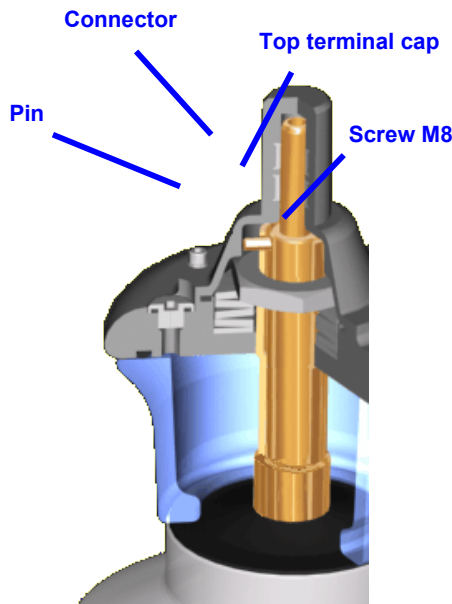

Fig. 13
To disassemble the HV top terminal cap, remove the 4 x M8 screws and lock washers, which secure it to the bushing head (fig. 13). Pull the HV terminal from the lug, keeping the terminal well centered on the axis of the bushing (fig. 13). The necessary force is small (about 10 kg) because the multi-contact blades, located inside the terminal, press softly on the smooth surface of the lug.
- Insert the HV terminal on the lug, keeping the terminal well centered on the axis of the bushing (fig. 13). The necessary force is small (about 10 kg) because the multi-contact blades, located inside the terminal, press softly on the smooth surface of the lug. The top terminal cap will hold the pin in place. Tighten the screws with a moment of 13 Nm. The gasket placed between the two pieces assures the transformer oil tightness and for this reason it is necessary to block the terminal before filling the transformer with oil. The gasket which is necessary to assure the tightness between the oil of the bushing and the oil of the transformer is not involved in this assembly. Clean well the terminal and apply specific grease for electrical contact and then assembly the connector to the terminal.
- Insert the HV terminal on the lug, keeping it well centered on the axis of the bushing (fig. 13). The necessary force is small (about 10 kg) because the multi-contact blades, located inside the terminal, press softly on the smooth surface of the lug. The top terminal cap will hold the pin in place; remember to place the gasket under the terminal.
- Withdraw the terminal from the lug (fig. 13). For bushings with $I_n > 1200$ A, bottom connected, this is not necessary. For this operation the terminal has to be drawn in longitudinal way and, at the same time, rotating a little in clockwise and counter clockwise direction.